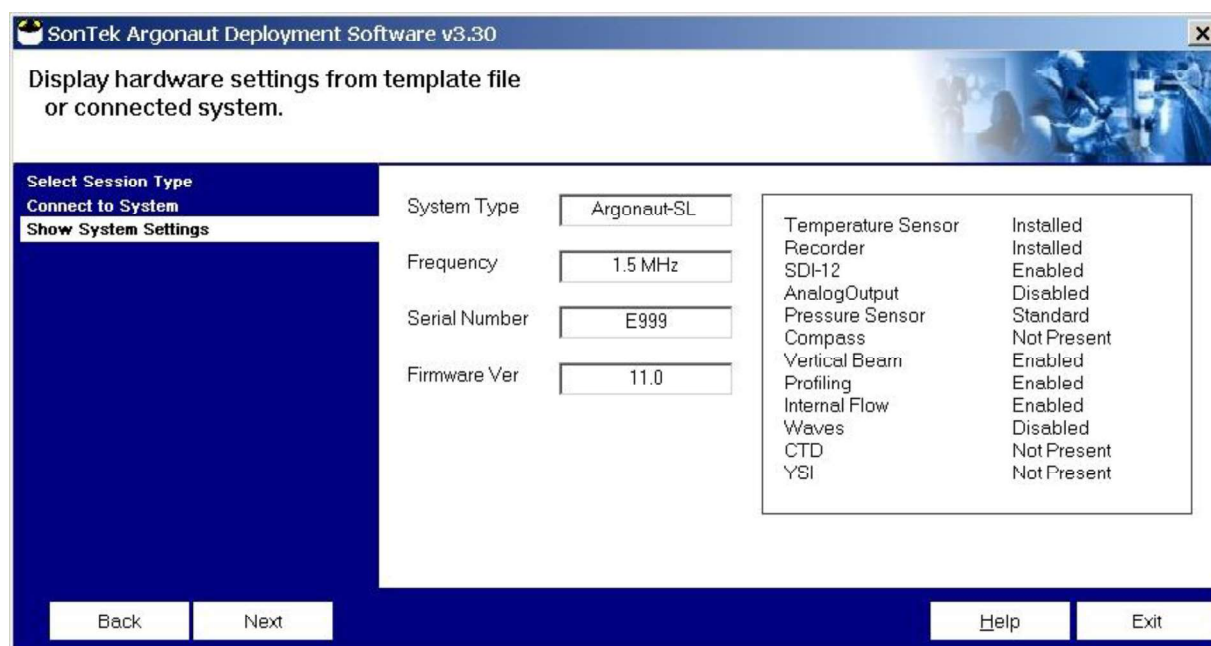

Figure 5-30. Deployment Software: Hardware Settings
- After communications are established, click **Next** to view the hardware configuration settings (Figure 5-30).
- When you have selected the desired template file, click **Next** to view all the major hardware configuration settings for this system (**Figure 5-30**).